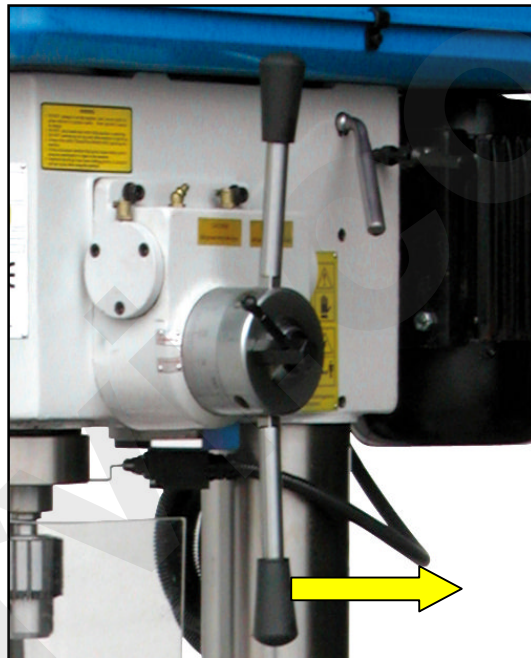

Figure 35 – Operation in automatic mode.
12. Pull the spindle feed handwheel outward (as in figure 35) for commencing the automatic work cycle.